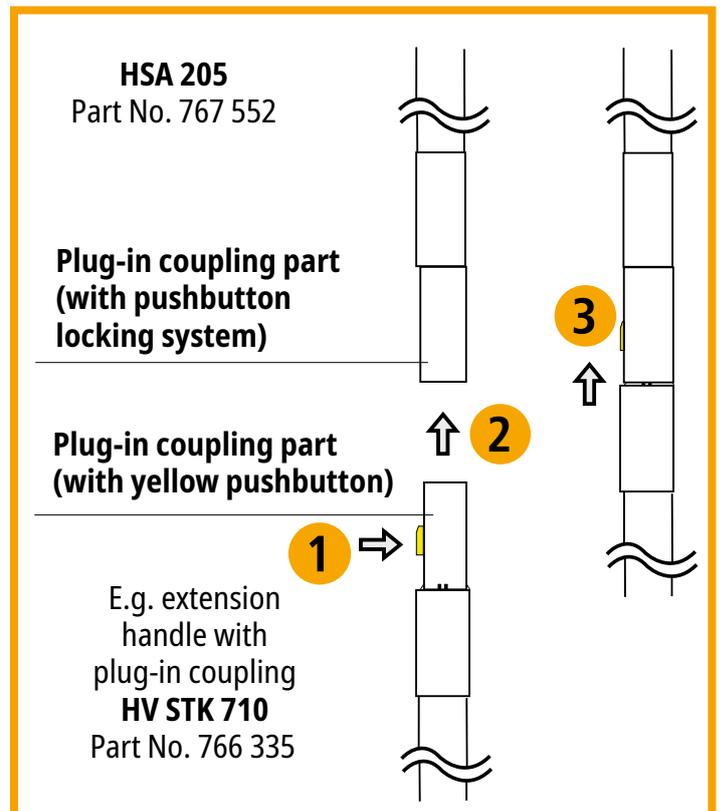

Bild 2
- ⇒ The **red ring (6)** marks the end of the insulating element towards the operating head.
- ⇒ The **insulating element (4)** is the part of the operating stick between the hand guard and the red ring. It gives the user the safety distance and sufficient insulation for safe handling.
- ⇒ The **handle (2)** is clearly separated from the insulating element by a **hand guard (3)**. A **strap (1)** prevents the high-voltage indicator from falling down accidentally when used as intended or enables it to be attached to the safety harness of the electrically skilled person. Using the adapter type **AD HV STK SQ**, part. no. 766 313, the handle can be extended with the aid of a suitable insulating or earthing rod which has a supporting head for T pin shafts as per DIN 48 087. Alternatively, the extension can also be made using one or more extension handles **HV STK 710**, part no. 766 335. The maximum total length should not exceed 7 m. The operation of the plug-in coupling is shown in Figure 2.